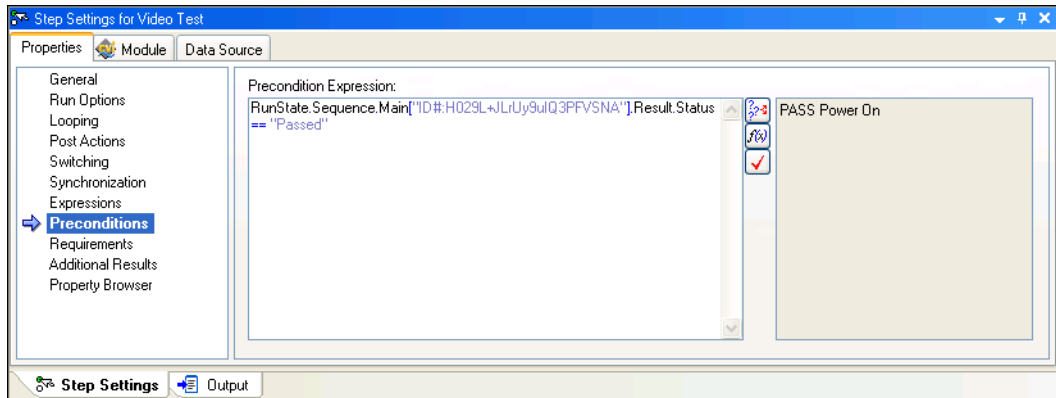

Figure 3-1. Preconditions Pane
- c. Click **OK** to close the Preconditions Builder dialog box and confirm that the Preconditions panel matches the settings shown in Figure 3-1.